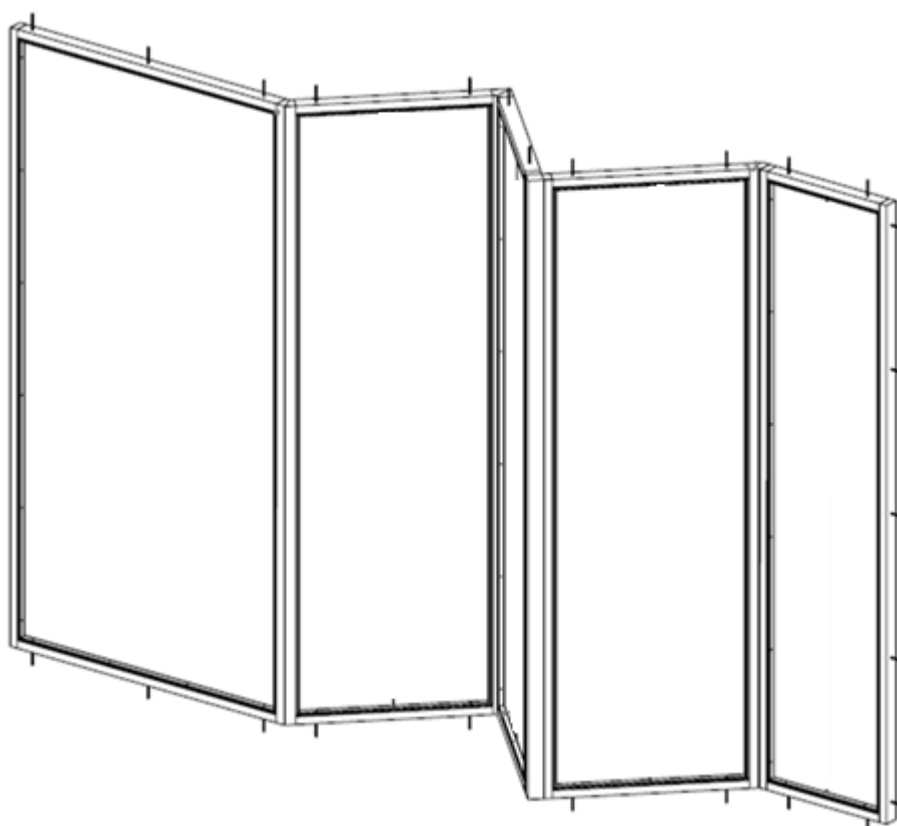

Figure 6: Angled joints with mullions and without glass-glass joints
- Angled joints with mullions and without glass-glass joints (Figure 6)